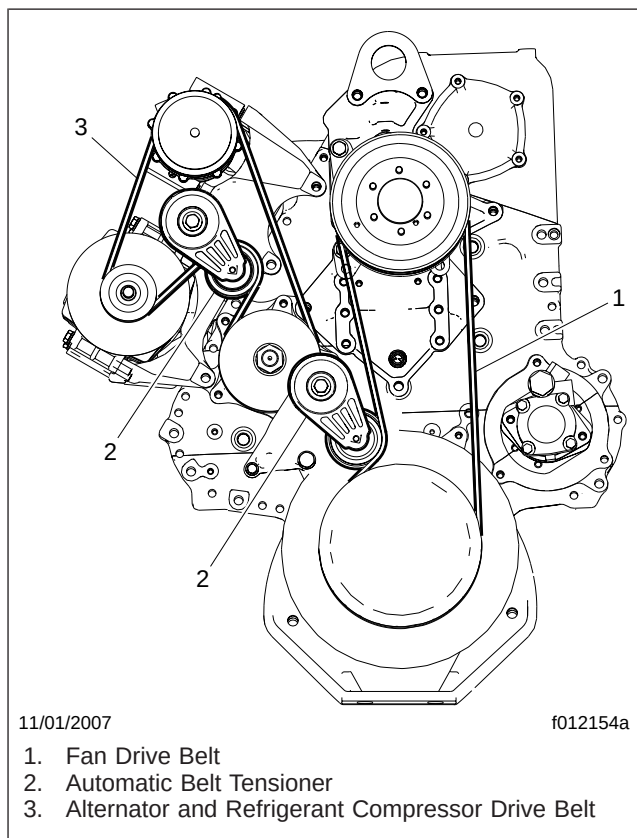

Fig. 1, Detroit Diesel Series 60 Drive Belts
3. Insert a 1/2-inch breaker bar in the belt tensioner and rotate the tensioner away from the accessory drive belt. See Fig. 1.